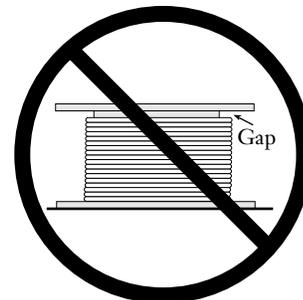

Figure 2
**4.1** Do not store, set or transport a reel on one flange, i.e., on its side, because it will cause the cable to settle to one flange thereby creating a gap between the cable and flange (Figure 2).